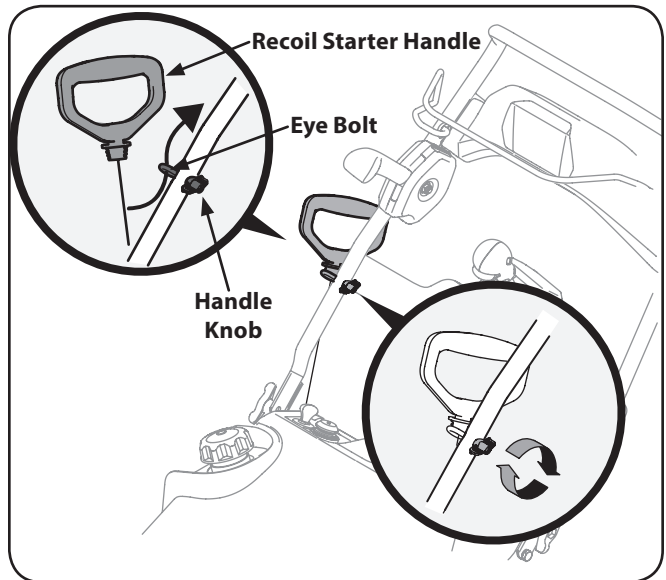

Figure 3-11
- Place the eye bolt and handle knob on the upper handle as shown in Figure 3-11. Do not fully tighten the hardware until instructed to do so.
- Slip the recoil starter rope into the eye bolt from the back of the snow thrower. See Figure 3-11.